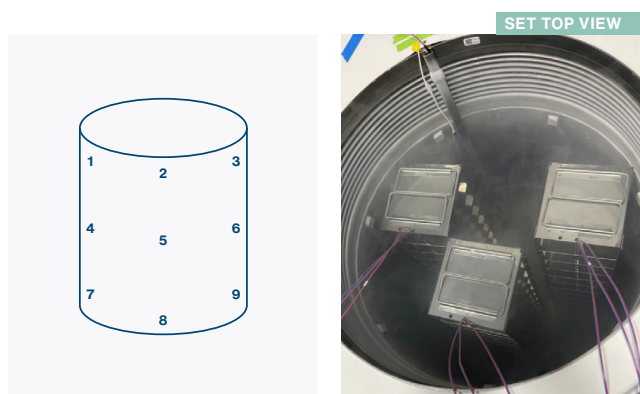

Figure 4. Temperature probe locations during test.
For this test, the CBS Cryogenic Solutions V-1500 freezer model was tested with a Kaye Validator and nine (9) temperature probes over a 24-hour period. The temperature probes were mapped according to **Figure 4** to best measure ambient temperature and various spots within the freezer.